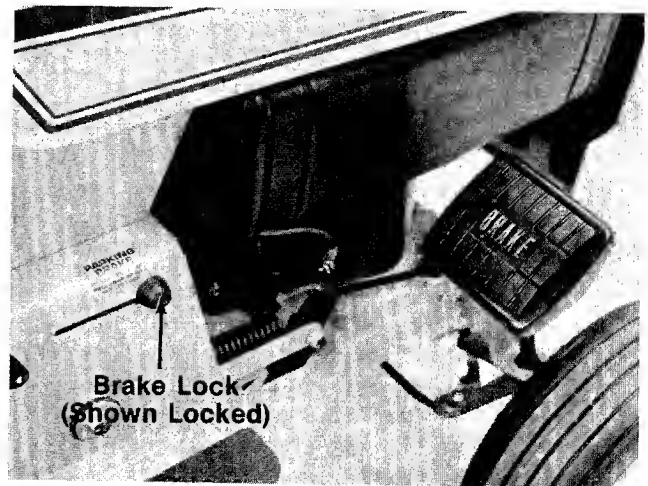

FIGURE 18.
The brake pedal is located on the right hand side of the tractor and is operated by depressing it with your right foot. See figure 18.
The brake lock is located on the right hand side of the tractor. To lock the brake, depress the brake pedal and lift up the lock button. The pedal will stay depressed. To release, depress the brake pedal. Always lock the brake when you park the mower. See figure 18.
3. Depress the brake pedal and lock it down with the brake lock. See figure 18.